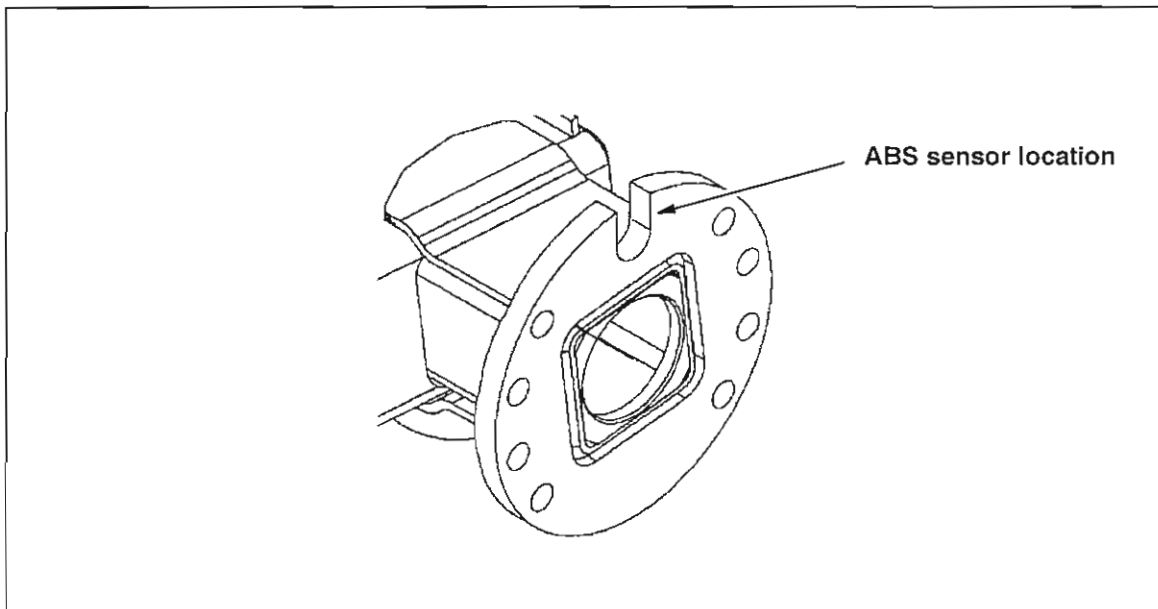

Figure 5.
44. Torque hub cap bolts to 13–15 lb-ft (Figure 5). Fill hub cavity until gear oil (part number 23-01-0029) appears at the level mark of the hub cap's plastic sight glass. Reinstall the rubber plug, and recheck level after coach operation. DO NOT overfill the hubs.
Replace the hub cap gasket (part number 15-05-6036) and hub oil seal (part number 15-05-6038 or 15L-5-167) after every hub assembly / disassembly (Figure 5).
47. Push the ABS sensor completely into sensor bushing by hand until it stops against the tone ring. The ABS sensor is properly installed and adjusted when it is touching the tone ring (Figure 5).